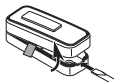

Figure 1
- 1. Remove orange battery tab from push button.** Remove back of case by pushing in tab on bottom with a small screwdriver (see Figure 1). Remove orange battery tab.
- **Screw Mounting:** To mount with screws, remove back of case by pushing in tab on bottom with a small screwdriver (see Figure 1). *Note:* Remove material in screw holes (if needed) before mounting with screws. Attach back of case to door jamb or wall (see Figure 4). Snap front of push button on.